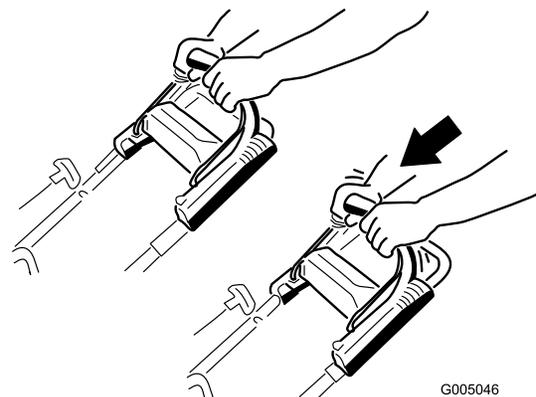

**Figure 13**
2. Pull the recoil starter lightly until you feel resistance, then pull it sharply (Figure 13). Allow the rope to return to the handle slowly.